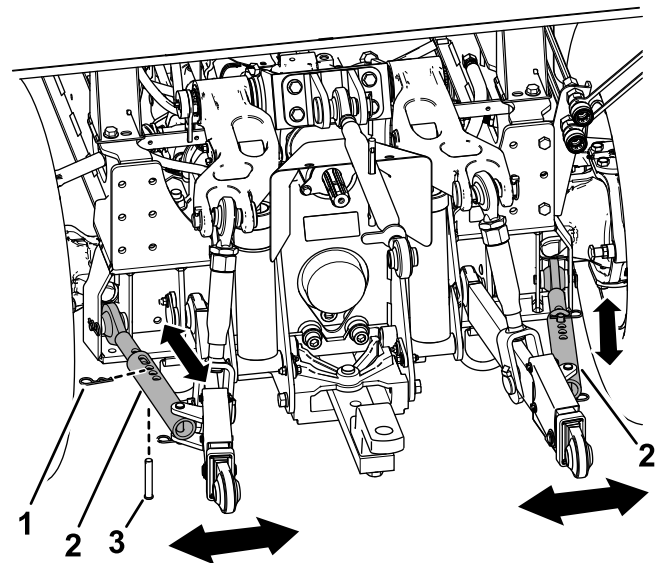

Figure 25
1. Remove the hairpin and cotter pin on each sway link (Figure 25).
2. Adjust the sway link in or out until the implement is level (Figure 25).
3. After adjusting, secure the sway link with the cotter pin and hairpin (Figure 25).